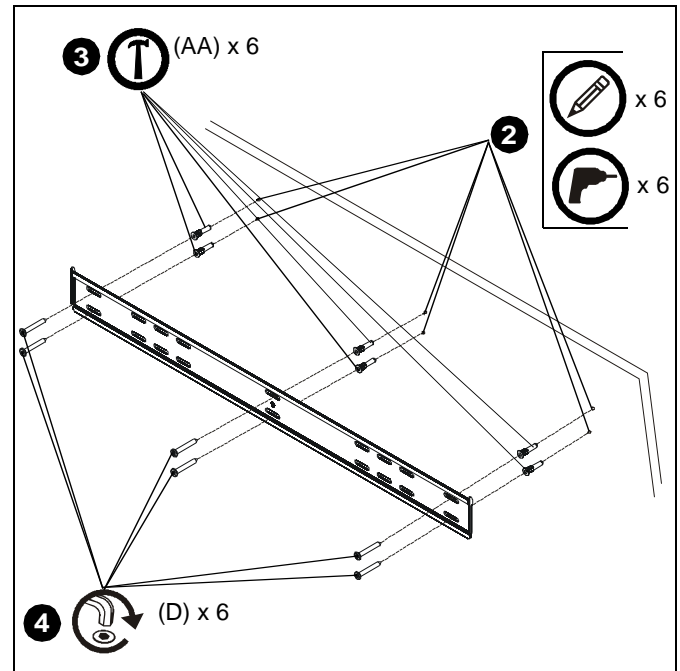

Figure 2
2. Using wall plate as a template, mark and then drill six 5/16" diameter pilot holes through mounting surface. Use level to make sure wall plate is perfectly horizontal. Holes must be drilled at least 2-1/4" deep. (See Figure 2)
3. Install six anchors (AA) into pilot holes drilled in Step 2. Use a hammer to lightly tap anchors into holes. (See Figure 2)
4. Install six connector screws (D) through wall plate holes and into anchors. (See Figure 2)